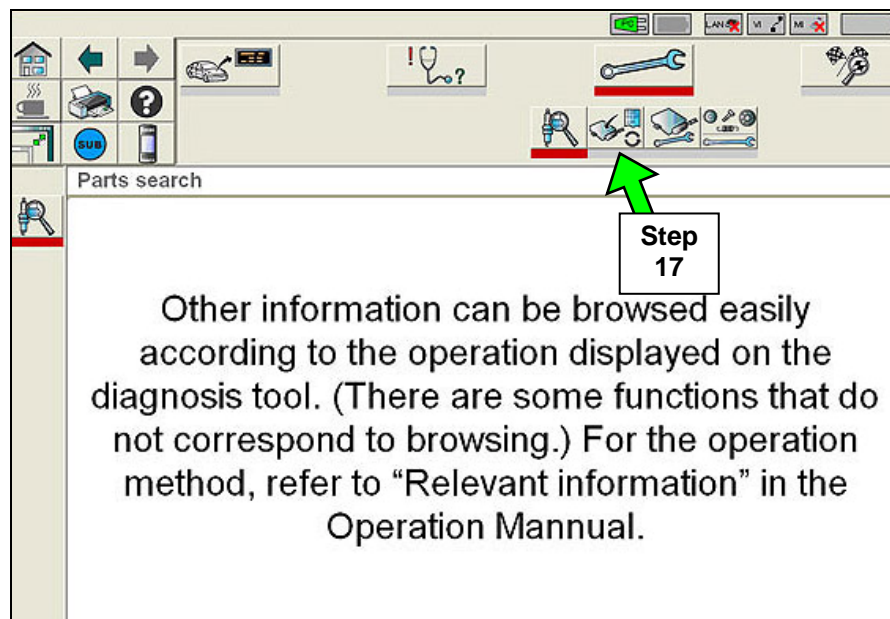

Figure 6
17. Select the “ECM Reprogram” icon (see Figure 6).